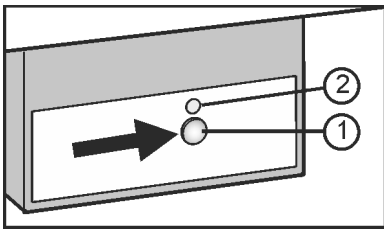

Fig. 13
- ▶ Press On/Off button Fig. 13 (1) so that the LED Fig. 13 (2) lights up.